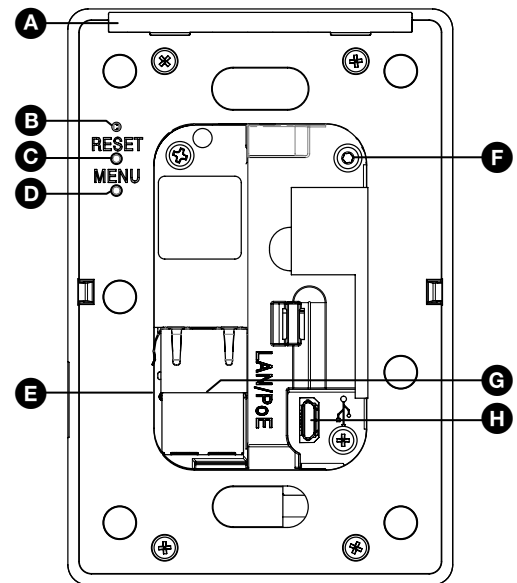
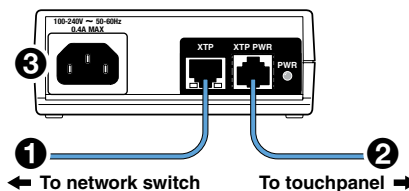

Figure 4. TLP Pro 300M Rear Panel
Figure 5. Connecting to a Power Injector
8. If a tether kit is being used, loosen the security screw on the back panel (see figure 4, **F**, on page 3) just enough to insert the loop of the tether kit.
Figure 4 shows the TLP Pro 300M Series rear panel.
The power injector must be purchased separately. Figure 5 shows the Extron XTP PI 100. Your power injector may look different.
Connect a straight-through Ethernet cable from the power injector to a switch or router (❶). This cable carries network information from the switch or router to the power supply input. A second straight-through cable (❷) carries the network information and 48 VDC from the power injector to the touchpanel LAN/PoE connector (see figure 4, ❸, on the previous page). Connect the IEC power cord to a convenient 100 VAC to 240 VAC, 50-60 Hz power source (see figure 5, ❹).
- **Use Factory Firmware:** Use this mode with Toolbelt software to replace firmware in the event of conflicts arising from uploading a firmware update. Press and hold the **Reset** button (see figure 4, ❷) while applying power to the unit.
- **Reset All IP Settings:** Use this mode to reset all network settings without affecting user-loaded files. Press and hold the **Reset** button until the Reset LED (❸) blinks twice (about 6 seconds). Release and momentarily press the **Reset** button again.
Press the **Menu** button (see figure 4, ❶) to open the Setup menu. Any of the six available screens (Status, Network, Display, Audio, Project Information, and Advanced) can be accessed by pressing the menu button in the top left corner of the screen (for more information, see the *TLP Pro 300M Series User Guide*).